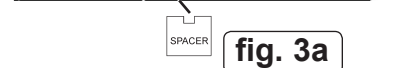

fig. 3a
- 3.5.2. To secure the reel of wire take the plastic spacer and identify the two cut-outs at one end (fig. 3a). Place the spacer over the holder end springs and onto the reel holder ensuring that the two cut-outs are facing inward toward the reel of wire (fig. 3a).